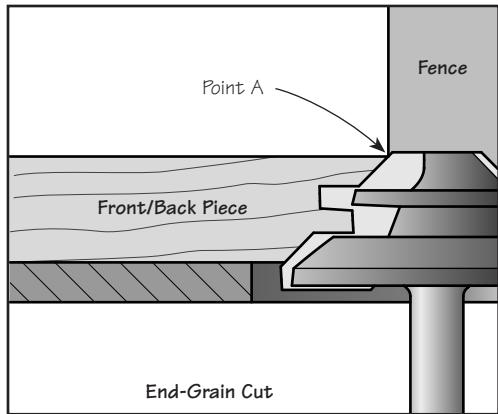

Figure 5: Perfecting the fence position.
5. Once the bit height has been perfected, use a front piece to set the fence position. As shown in **Figure 5**, the face of the fence, top surface of the front piece and router bit cutting profile should all contact point A.